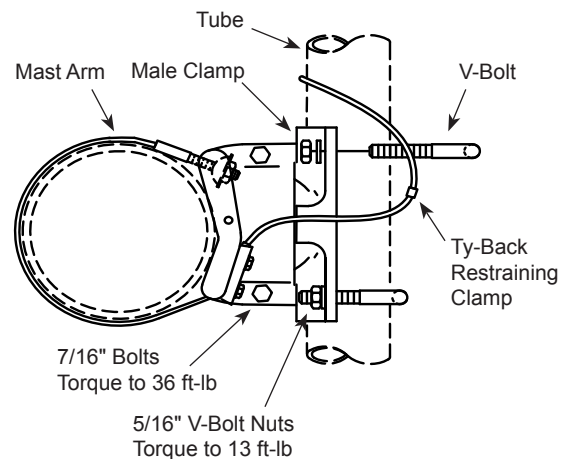

Figure 5
16. Mount the tube assembly (with its attachments installed) into the male of clamp kit. Insert the v-bolts as shown and attach with lock washers and nuts. (Figure 5). Position the signal to the desired height and direction, torque nuts on (2) 5/16" v-bolts to 13 ft-lb. DO NOT OVERTIGHTEN.
20. Install the AB-0506 cable Ty-Back Restraining Clamp per separate Instruction Bulletin No. 2037 to provide a neater cable appearance and a positive cable restraint. (Figure 5)